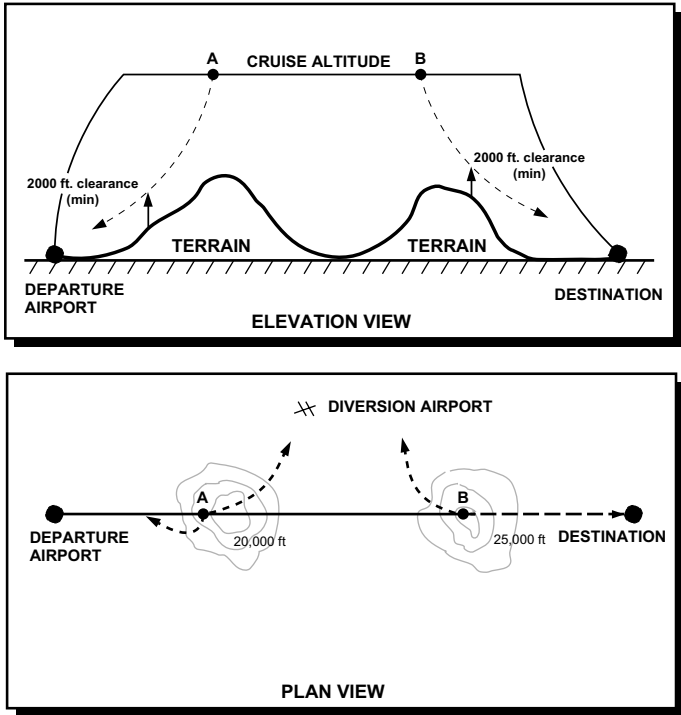

Figure 2
2. Next the FPS performs a "Driftdown Analysis and Decision Point(s) Determination". This analysis checks to ensure all terrain is cleared by 2000' while descending. (Reference Figure 2 for the following example.
The computer determines decision points (A and B, Figure 2) based on the 2000' clearance criteria. Once determined, decision point A becomes the last point from which it is safe to return along your route to the departure airport. At (or after) decision point B, you can lose an engine and continue along the route of flight to your destination meeting terrain clearance criteria. (Note that the above two examples do not require a deviation from your flight plan routing.)